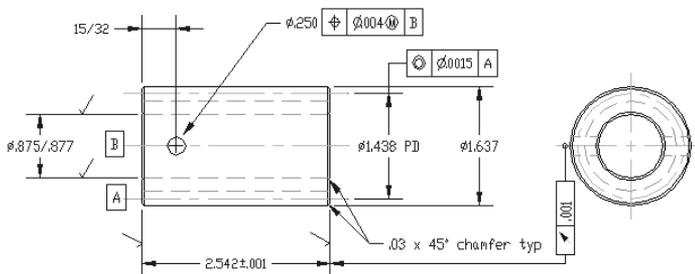

Figure 15-40: The drawing with the added geometric tolerance frame.
8. Save your drawing. It should look like Figure 15-40.